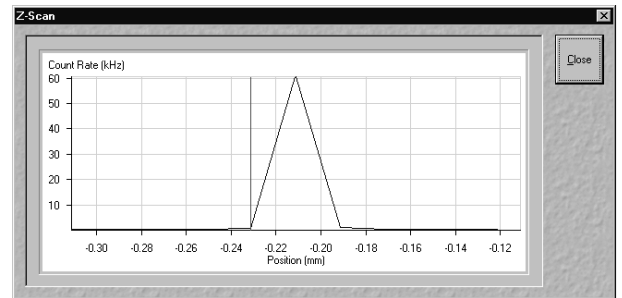

Fig. 4-130 Z-Scan image
- After pressing the **Start** button a Z scan is performed and the intensity displayed in dependence of the Z position (see Fig. 4-130). The red line in the diagram shows the actual Z position. Peaks show Z levels of high signal intensity and may correlate to labeled membranes. Note, that the glass surface will also give a peak. To determine its position, just perform a Z Scan at a position where there is no cell. Place the red line at the peak that corresponds to the membrane to select this Z position.